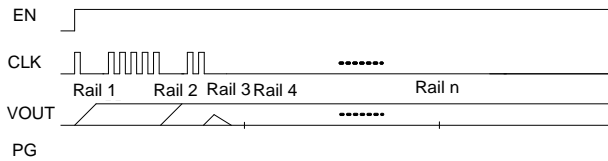

Figure 9: Soft Start during PMIC Error when CLK Pulls Down (CLK Pausing)
- If CLK_ON_ERROR_PAUSE_EN = 1, the initiator/target PMIC pulls the CLK pin down if any error occurs during any power rail’s soft start (see Figure 9 on page 19).